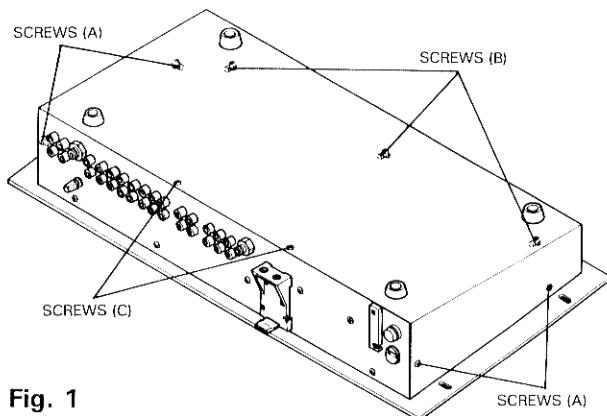

Fig. 1
- (a) Remove 4 screw (A). (Fig.1)
- (b) Remove 3 screws (B). (Fig.1)
- (c) Remove 2 screws (C). (Fig.1)